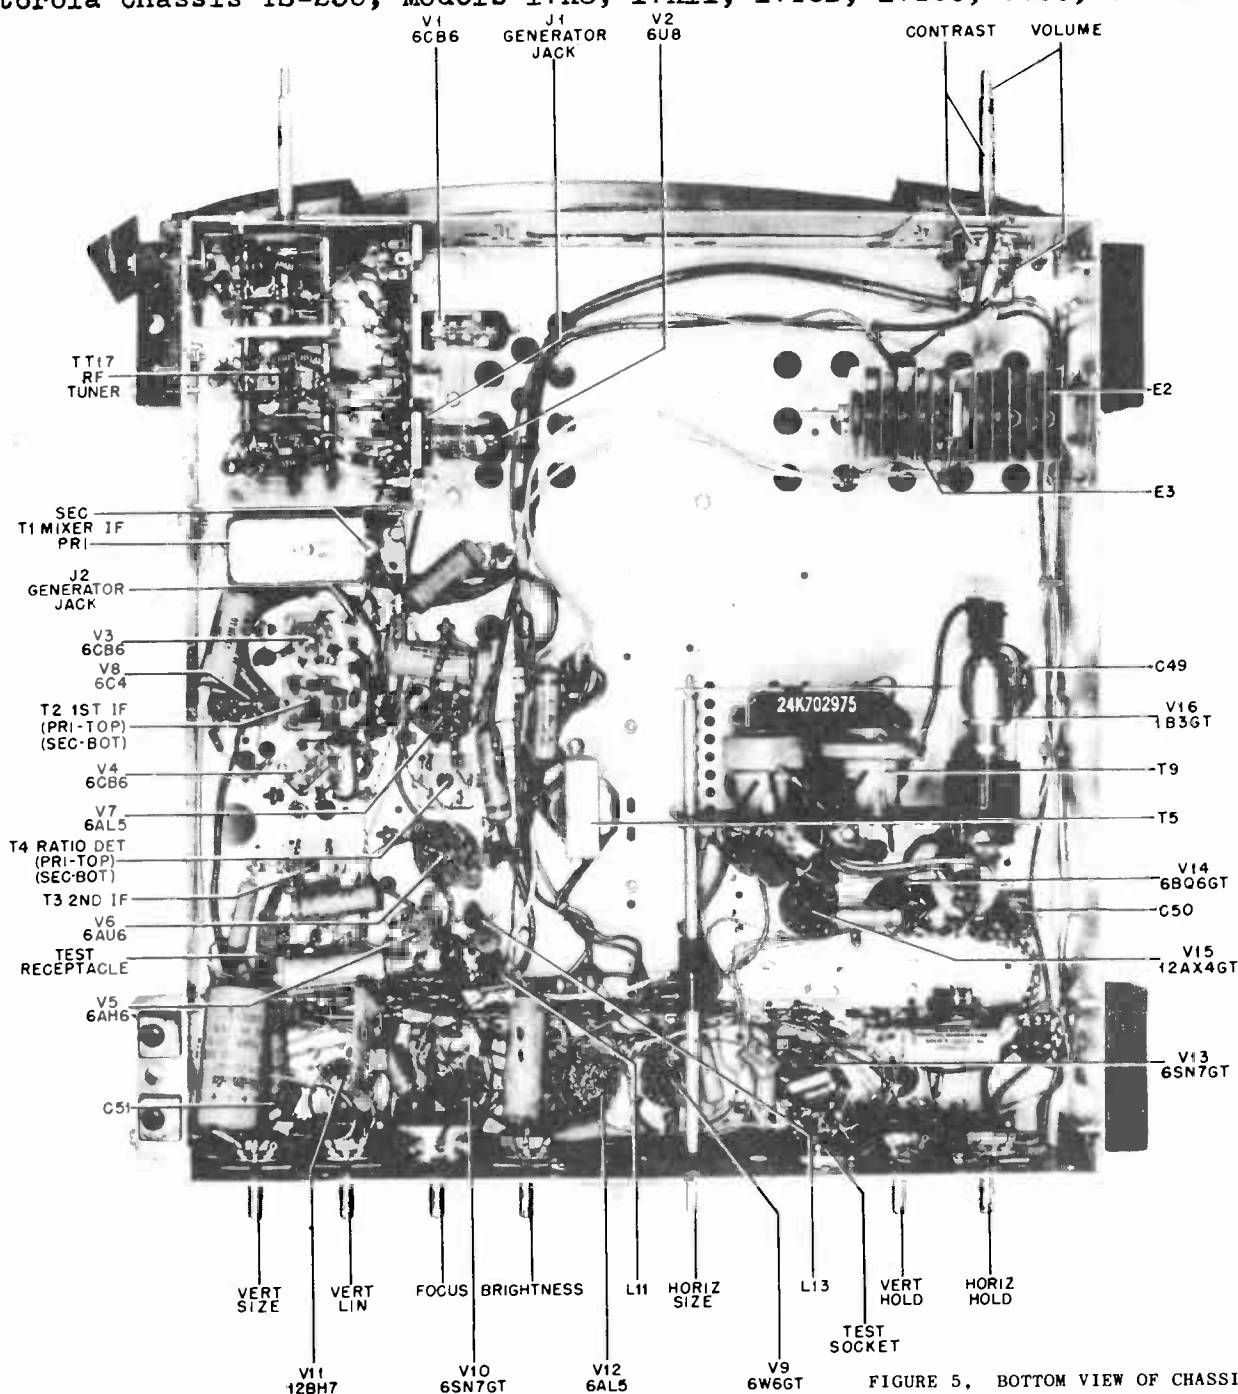

FIGURE 5. BOTTOM VIEW OF CHASSIS
8. Move the generator to jack J-1, connected to the grid (pin 2) of the mixer tube V-2B. See Figure 5.